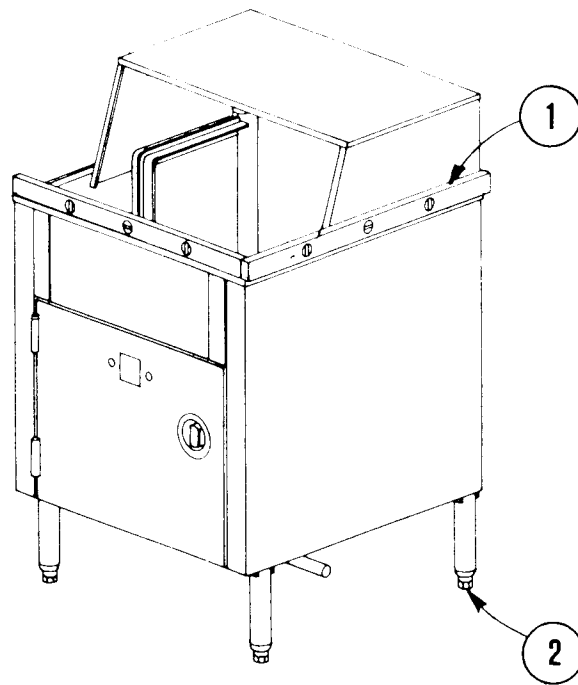

Figure 7.1.2
7.1.2 Height Adjustment (See Figure 7.1.2)